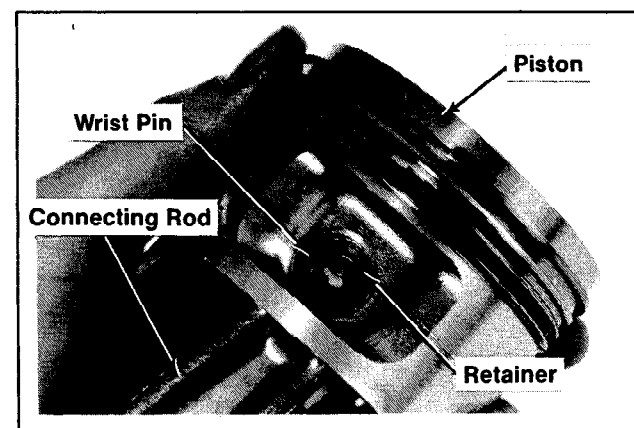

Figure 10-6. Removing Piston From Connecting Rod.
1. Remove the retainer and wrist pin. Separate the piston from the connecting rod. Refer to Figure 10-6.